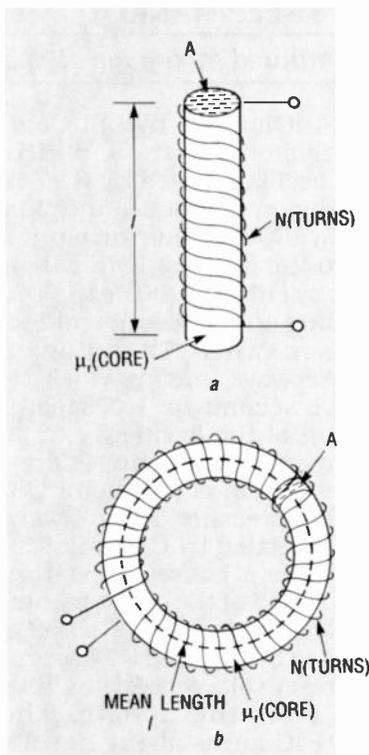

FIG. 9—TWO TYPICAL COIL constructions are the solenoid (a) and the toroid (b). Inductance in henrys (L) is defined as $L = N^2 \times \mu A/l$.
The inductor consists of a length of wire wound into a solenoidal or toroidal shape, with or without a center core as shown in Fig. 9. When current passes through the coil, magnetic flux lines are established, as shown in Fig. 10. Inductance (L) of a coil is its ability to store energy in the
The schematic of the peak-hold circuit is shown in Fig. 9. In that circuit, op-amp IC23 amplifies the signal from the device under test about four times.